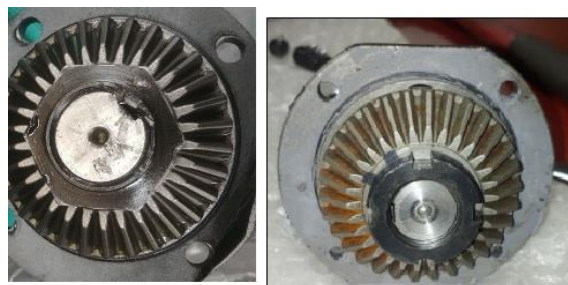

Figure 87
2. Remove the nut from the end of the shaft. Note: There are two different style of nuts. One is locked by stacking the nut in the keyway and the other has a keeper that locks the nut in place. Both styles are adjusted the same way Figure 87